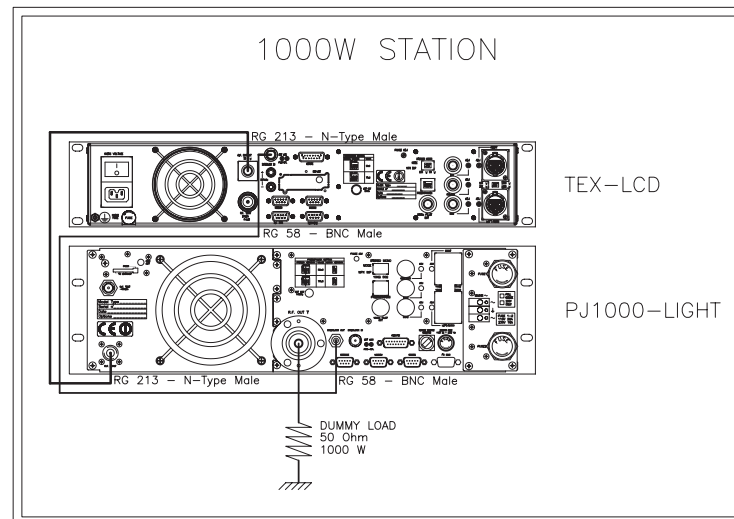

Figure 5.1: Connections with exciter
**The control and RF connection diagram, between the amplifier and its exciter, and the connection with the load are represented in figure 5.1.**